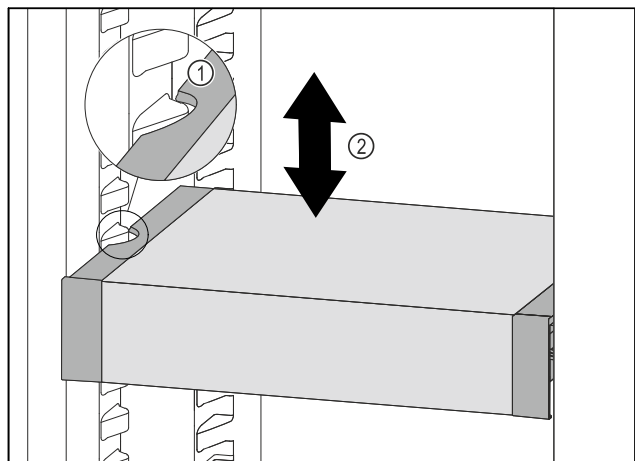

Fig. 41
- ▶ Pull VarioSafe forwards until the recesses in the side of the VarioSafe are at the level of the support rib in the refrigerator compartment. Fig. 41 (1)
- ▶ Move VarioSafe up or down in the refrigerator compartment until the desired height is reached. Fig. 41 (2)